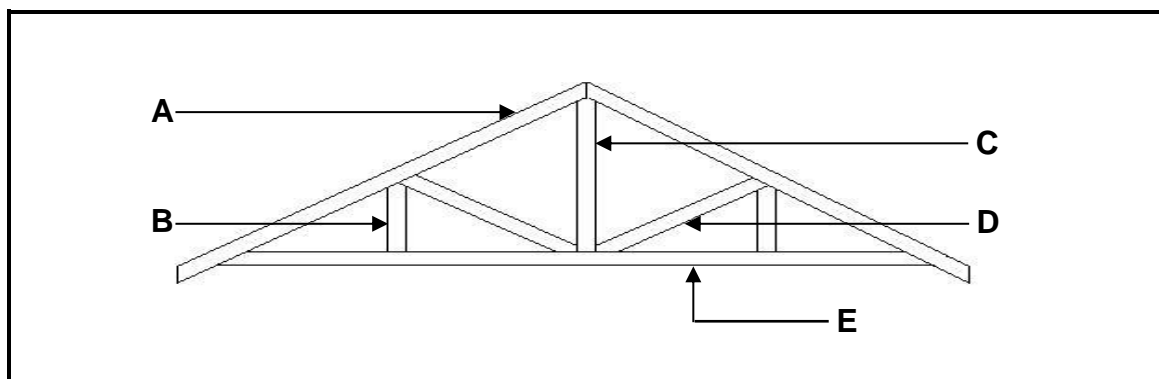

FIGURE 3.4
3.4 Answer the following questions in regard to the roof truss in FIGURE 3.4.